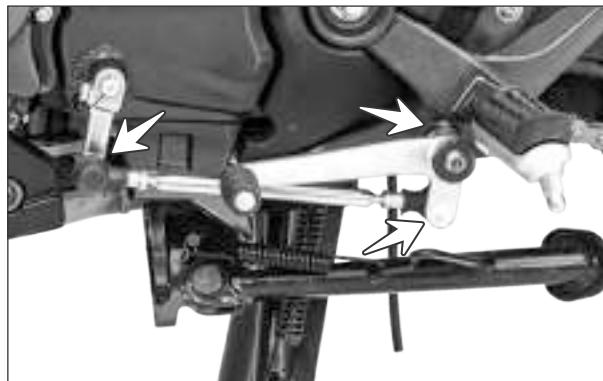

Fig. 2.121
- ▮ Lubricate the ball joint gear shift lever using grease every 6000 km for easy operation of lever and smooth gear shifting. (Fig. 2.121)